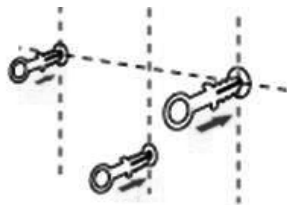

Fig. 7
3. Insert the 3 wall plugs into the holes (figure 7).